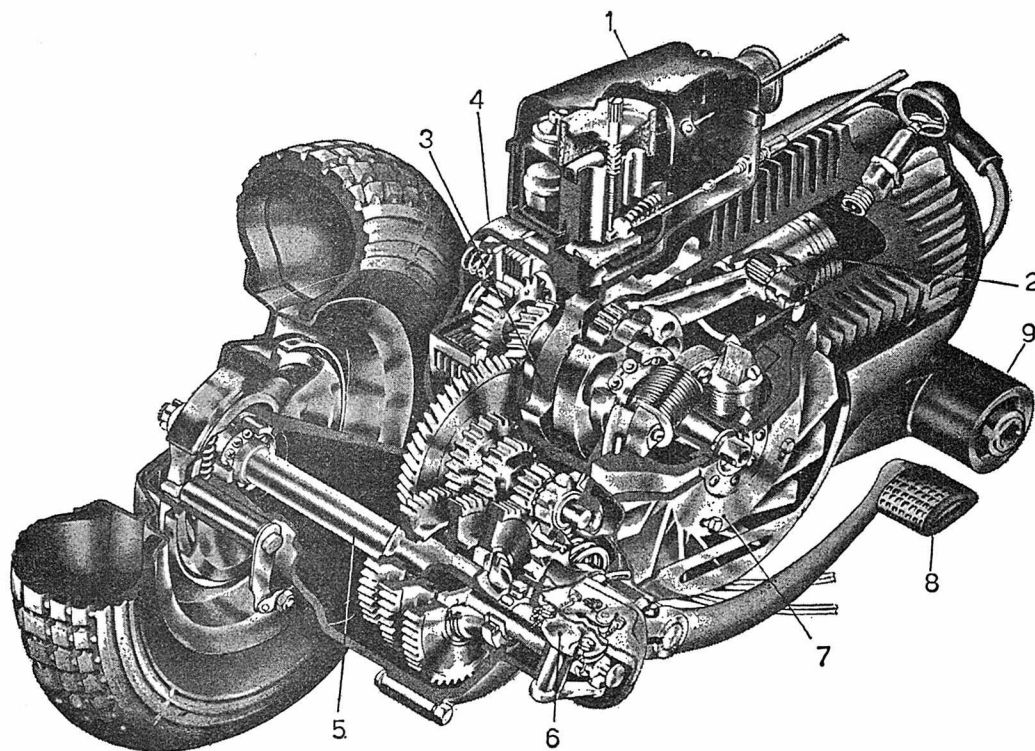

Fig. VE2-1—Sectional view power plant which has a rotary inlet valve integral with the crankshaft.
**GEAR BOX.** The relationship of gear box parts to each other is shown in Fig. VE2-1. The procedure for removing these parts is evident after the crankcase halves have been separated.